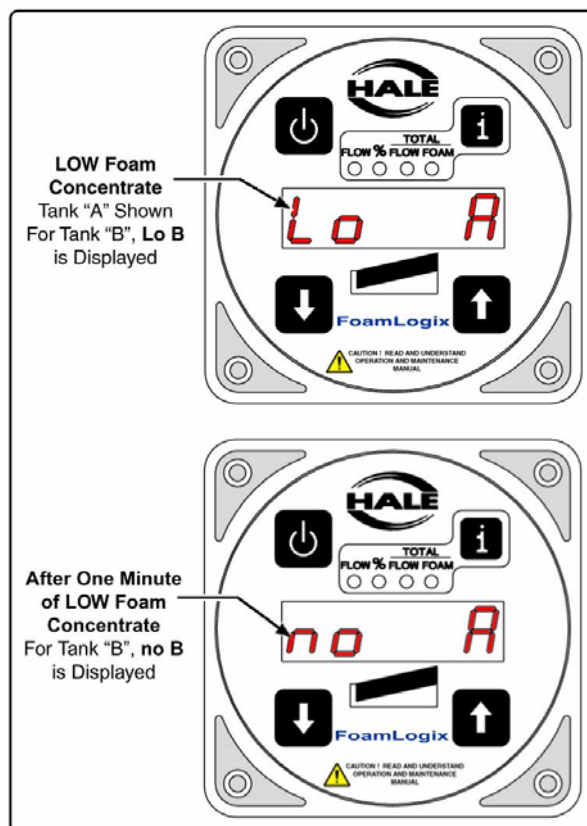

Figure 5-4: Low Foam Tank Message, Tank “A” Shown
The Hale FoamLogix foam pump is interlocked with the foam concentrate tank LOW level switch. If the tank is empty, the pump runs for one (1) minute. A low foam concentrate tank level message is shown (**Lo A** or **Lo B**) alternating with the normal selected function on the display. (See Figure 5-4: “Low Foam Tank Message, Tank “A” Shown.”)